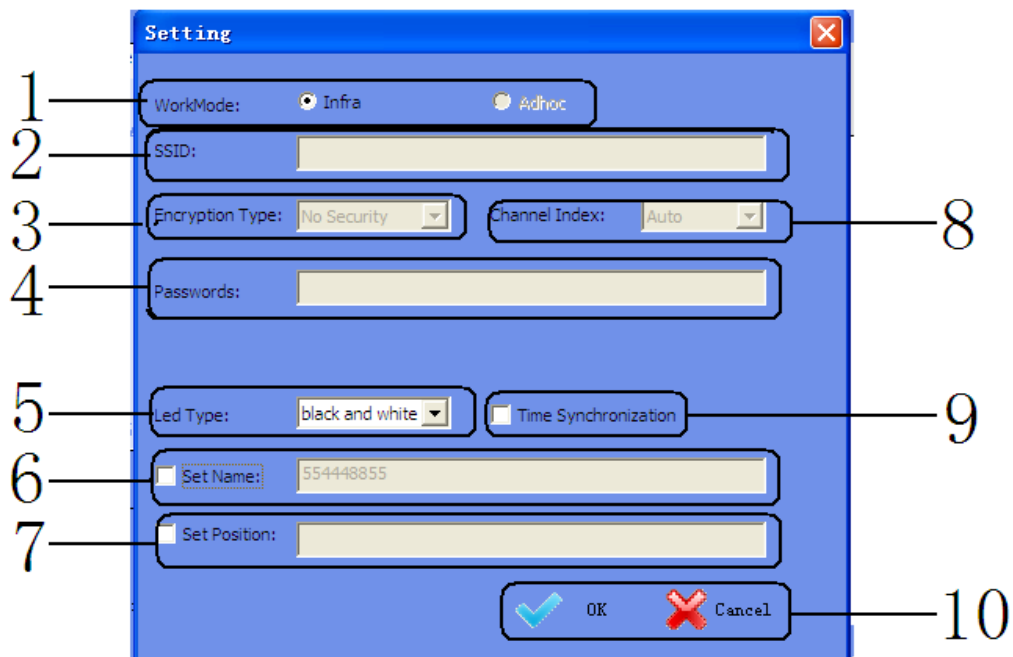

Figure 3.3
2. 3 Descriptions of parameters in setting page (Figure 3.3)